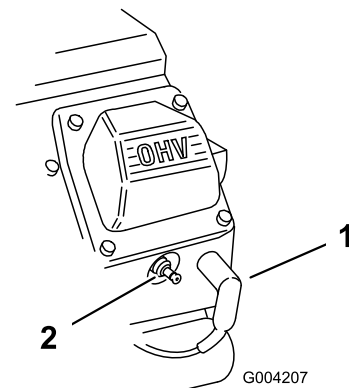

Figure 48
2. Pull the wires off the spark plugs (Figure 48).
3. Push the wires onto the spark plugs (Figure 48).